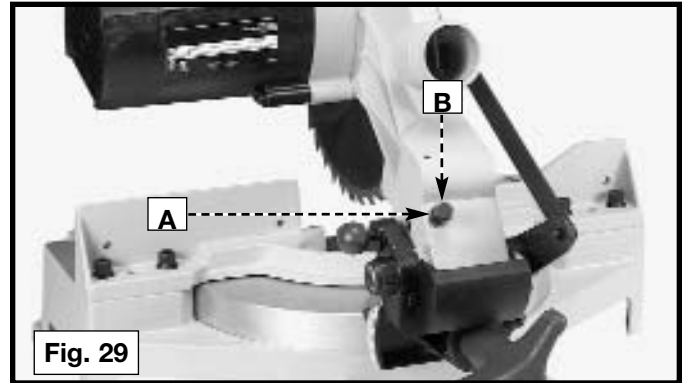

Fig. 29
To adjust the spring tension, loosen the locknut (A) Fig. 29 and turn the screw (B) (clockwise to increase or counterclockwise to decrease the spring tension). After adjustment, tighten the locknut (A).